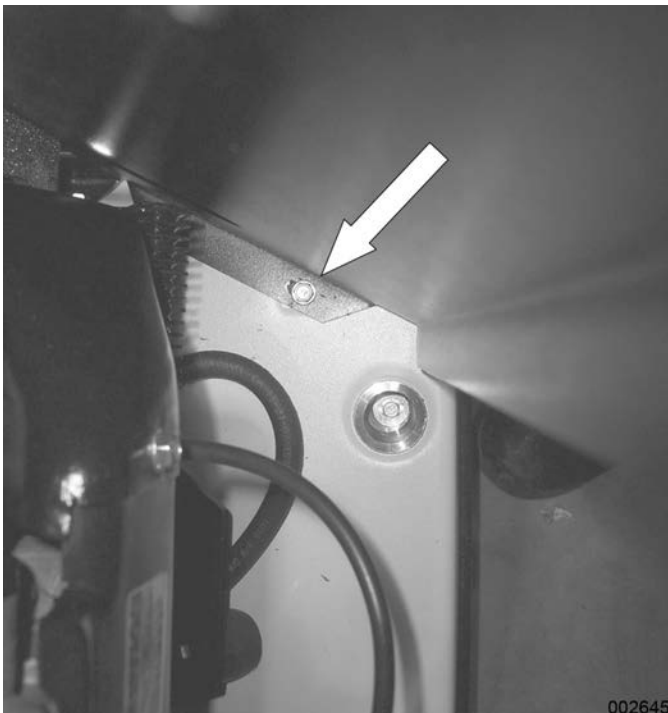

Figure 6-11.
12. See Figure 6-11. Remove the front 10mm bolt from the base of the enclosure.